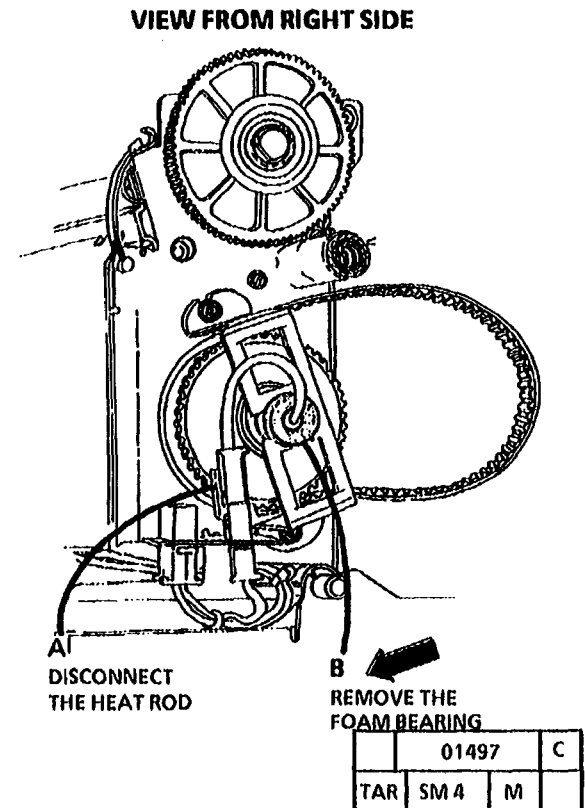

Figure 1. Prepare to Remove the Heat Rod
7. (Figure 1): Prepare to Remove the Heat Rod.